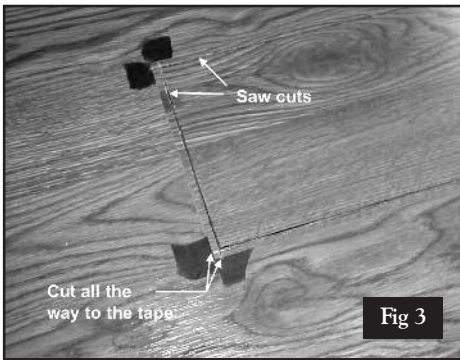

Fig 3
4. Using the marked line as your guide, saw thru the damaged plank/tile on all four (4) sides as is shown in Fig. 3. NOTE: Do not cut closer to the seams than the 1/4" marked lines.